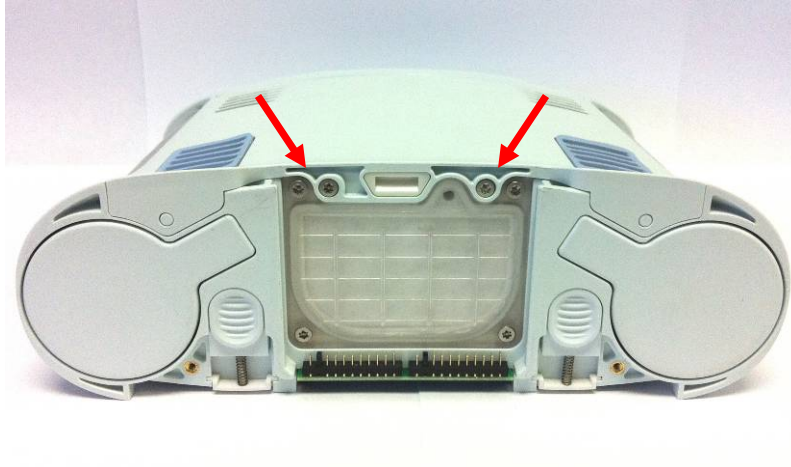

Figure 4: Location of screws
4. To remove the front housing, place the device on its back side and remove the two screws that secure the front housing to the chassis (Figure 4).